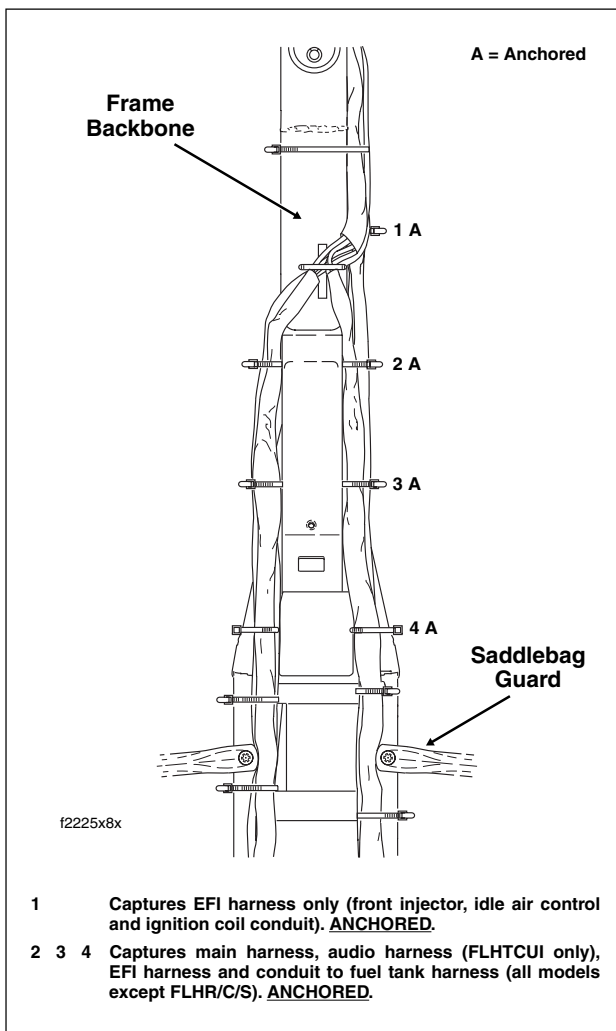

Figure 8-190. Remove/Install Cable Straps
7. Carefully cut five cable straps to free EFI wire harness from right side of frame backbone, upper frame tube and other wire harness bundles. See Figure 8-190.
3. Loosely install five **new** cable straps to secure EFI wire harness to right side of frame backbone, upper frame tube and other wire harness bundles. See Figure 8-190.